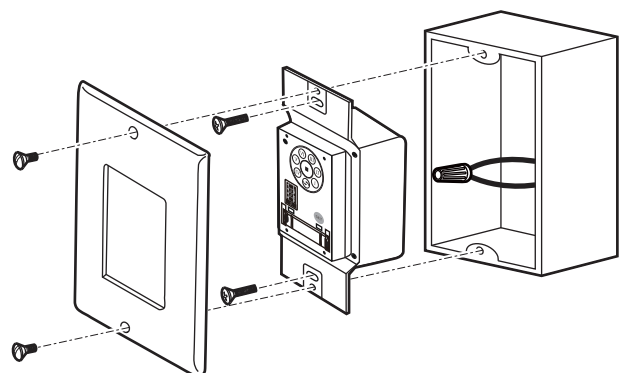

Figure 15
2. Carefully tuck the wire connections inside the outlet box. Secure the wall control with the two wall switch screws provided. (Fig. 15)